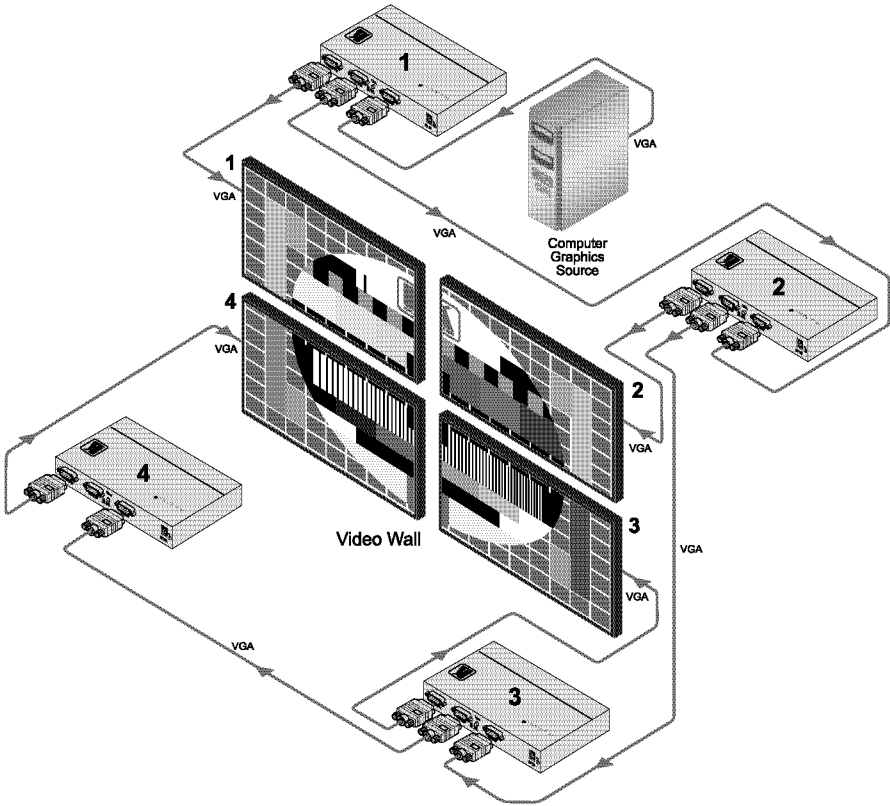

Figure 2: Connecting the VP-423 PC Video-Wall Scaler
The example in Figure 2 shows a video wall composed of four screens arranged in a 2x2 matrix. Each screen is connected to a **VP-423** unit. The four **VP-423** units are looped and then set via the OSD of each unit (see Section 7).
To connect a **VP-423** 2x2 video wall¹, as illustrated in the example in Figure 2, do the following:
5. On all the **VP-423** units, connect the 5V DC power adapter to the power socket and connect the adapter to the mains electricity (not shown in Figure 2).